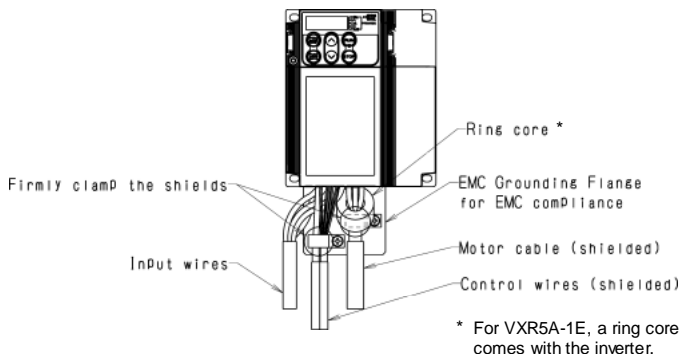

Figure 10.2 Connecting Shielded Cables
- 2) Use shielded wires for the motor cable and route it as short as possible. Firmly clamp the wire shield to the flange to ground it. Further, connect the wire shield electrically to the grounding terminal of motor. (See Figure 10.2.)
- 3) Use shielded wire for connection around the control terminals of the inverter and also for connection of the signal cable of an RS-485 Communications. As with the motor, clamp the shield wire firmly to a grounded plate. (See Figure 10.2.)